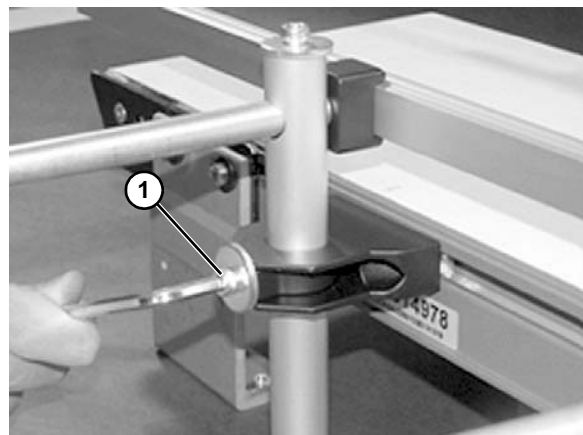

Figure 68
7. Adjust rail height with lower screw (**Figure 68, item 1**).